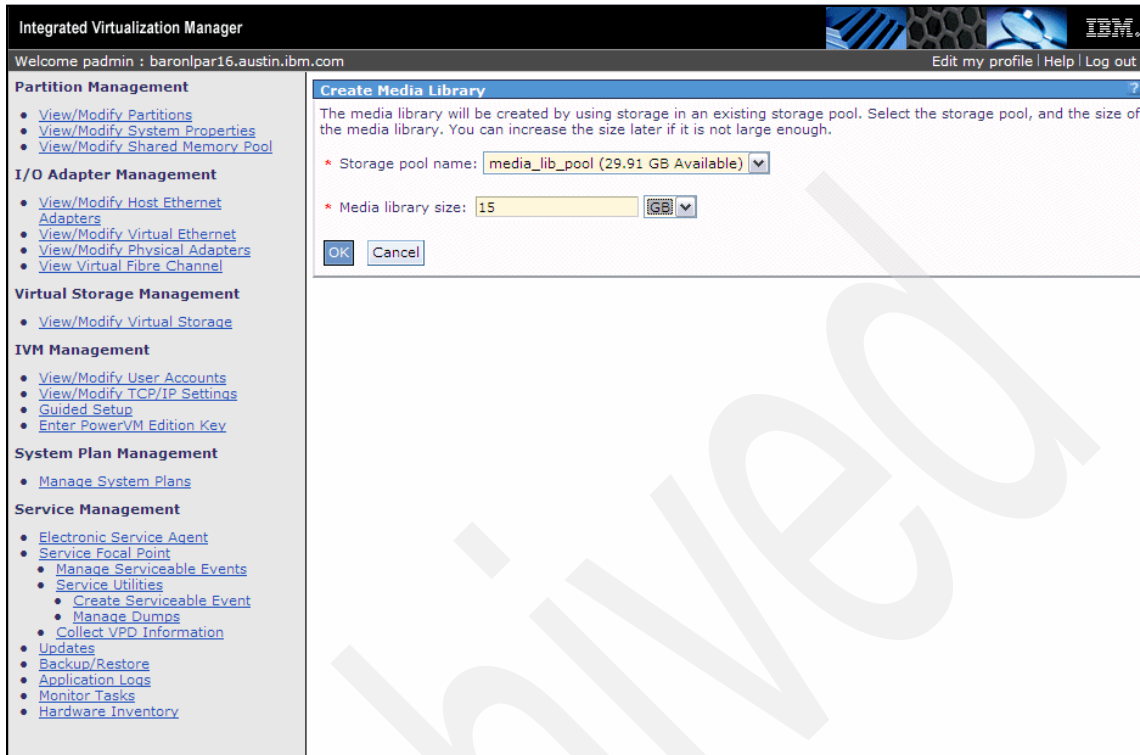

Figure 4-47 Media library size and storage pool
3. In the Create Media Library panel, shown in Figure 4-47 on page 132, select an available storage pool and the amount of storage space that will be used from this storage pool to create the media library, and then click **OK**.